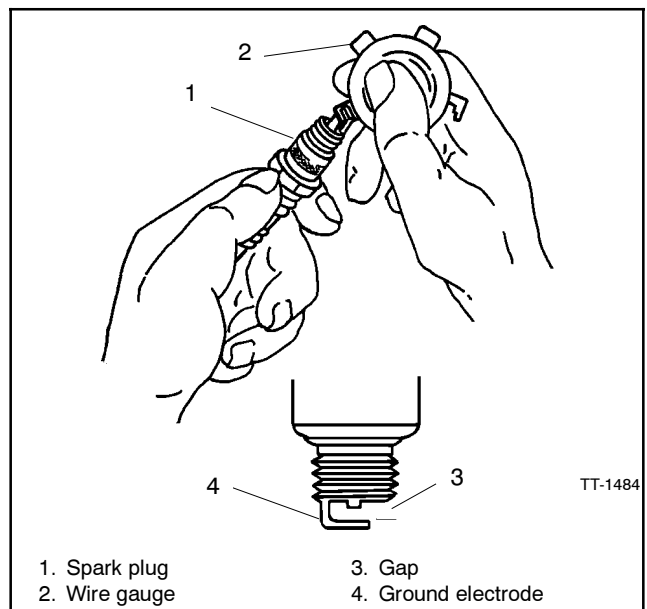

Figure 3 Servicing Spark Plug
3. Check and set the gap of the new spark plug(s) using a wire feeler gauge. See Figure 4. Adjust the gap by carefully bending the ground electrode. See Figure 3.